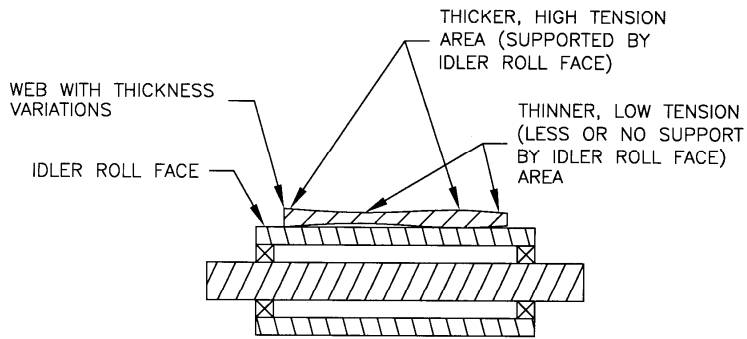

FIGURE 1
- Gauge band variations (thickness variations) across web width, cross machine direction (figure 1) will cause wrinkles because tensions will vary across the web width. These tension variations will cause tensile stress in the thicker areas and compression in thinner areas. This compression causes wrinkles.